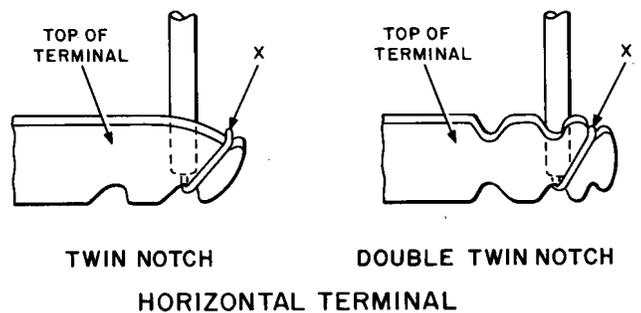

Fig. 10—Termination of Wire on Terminal With a Twin Notch or Double Twin Notch
7.13 To terminate wires on a terminal strip provided with terminals having twin notches or double twin notches where only one set of leads is required, connect them in the outer notches unless it is necessary to reserve these notches for strapping subject to change in service. The jumpers should be terminated, as described in paragraphs 7.11 and 7.12 and as shown in Fig. 10.